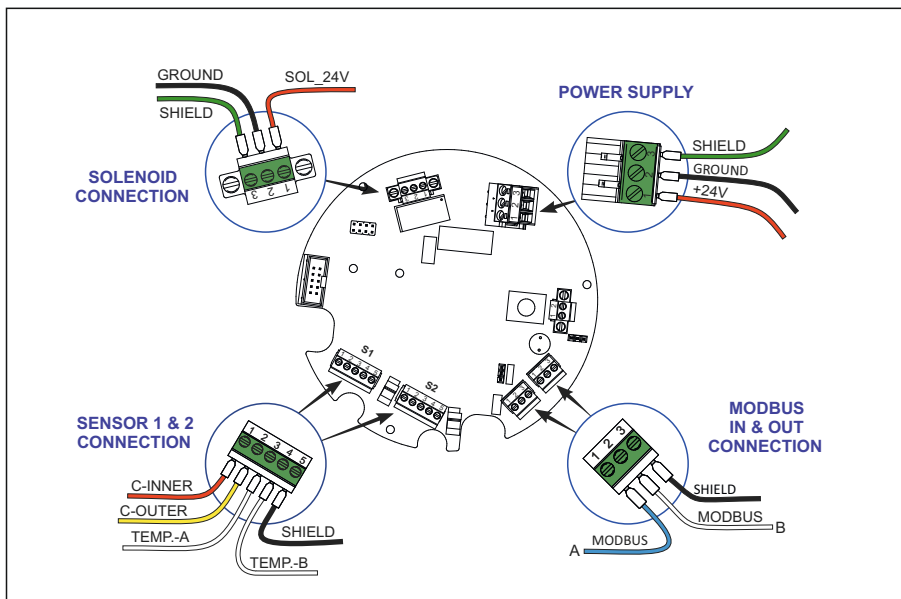
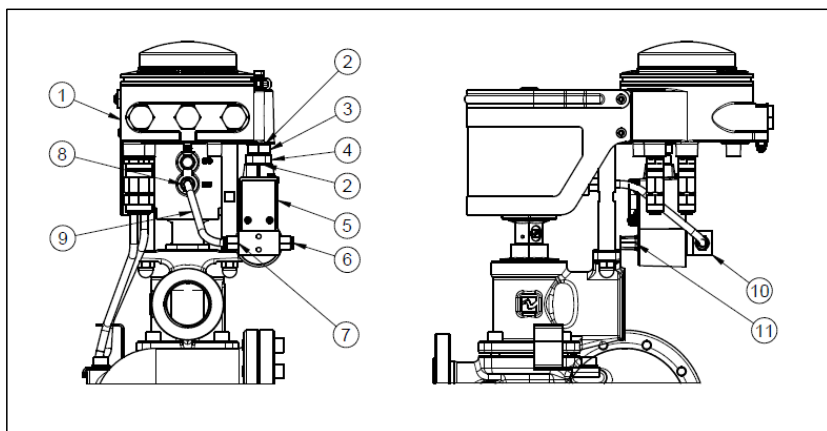
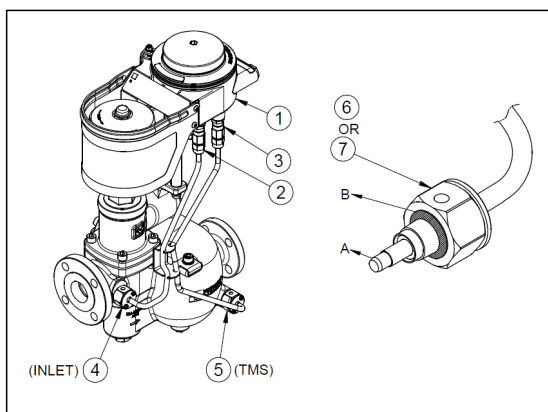

Fig.7.3
Fig.7.4
Fig. 7.7
- 4) Disconnect the power connector from the electronics board (refer to fig. 7.3).
- 2) Remove the mounting screws (6) and take out the partition plate (5), referring to the tools and torque specifications.
- 3) Disconnect the cable terminals for the solenoid valve, sensor-1, sensor-2, Modbus-in, and Modbus-out (refer fig 7.3).
- 4) Loosen and remove the mounting screws (7), then carefully remove the existing PCB by holding the power supply connector.
- 5) Handle the new PCB (8) by the power supply connector, position it inside the housing, and mount it.
- 6) Secure the new PCB (8) with the mounting screws (7) and reconnect the solenoid, sensor-1, sensor-2, Modbus-in, and Modbus-out cables (refer fig 7.3).
- 7) Reinstall the partition plate (5) using the mounting screws (6).
- 1) Following the steps outlined in section 7.1.1, disconnect the solenoid cable terminal from the electronics and remove the solenoid cables from the terminal. Refer to Figure 7.3 of the connection diagram for reference.
- 2) Close the air-line valve and disconnect the pneumatic connection from the solenoid inlet port (6).
- 3) Detach the pneumatic tube (9) from the solenoid valve outlet port (7).
- 4) Unscrew the pneumatic connector (7) from the solenoid valve (5).
- 5) Loosen the solenoid valve stem cap (11) from the valve body stem (10), allowing both to be separated and removed from the solenoid coil (5).
- 6) Using the appropriate tools, rotate the M20 cable feed-through (3) along with the solenoid valve (5) from the electronics housing (1). While rotating the M20 feed-through (3), ensure the solenoid cables inside the electronics housing rotate with it to prevent twisting. This will separate the existing solenoid (5) from the housing (1).
- 7) The newly supplied solenoid valve comes pre-assembled with connected cables, an M20 feed-through (3), and M20 gasket (2).
- 8) Remove the solenoid stem cap (11) and valve body (10) from the newly supplied solenoid coil (5).
- 9) Ensure the M20 gasket (2) is properly positioned between the electronics housing body (1) and the M20 cable feed-through (3), then tighten securely.
- 10) Confirm the M20 gasket (2) is in place between the check nut (4) and the solenoid coil (5). Align the solenoid valve (5) as shown in the fig. 7.4 and tighten the check nut (4).
- 11) Insert the solenoid valve body (10) with its stem through the solenoid coil (5) and fasten the stem cap (11) on the opposite end.
- 12) Attach the solenoid valve outlet port connector (7) and connect the pneumatic pipe (9) to it.
- 13) Connect the air supply pipe to the solenoid valve inlet (6) and open the air-line valve to start the air supply.
- 14) Connect the solenoid cable to solenoid connector and attach the solenoid connector to the electronic board as shown in fig. 7.3.
- 2) Disconnect the sensor connectors from the terminal PCB. Refer to Figure 7.3 of the connection diagram for reference.
- 3) Loosen the cable glands (2 & 3) to release the sensor cables. The cable glands (2 & 3) do not need to be completely removed from the housing (1).
- 4) Use a 32 mm A/F spanner to remove sensors (4 & 5) from the product inlet ports and cover TMS ports as shown in Figure 7.7.
- 5) Clean the sensor probe (A) with soft cloth, removing any accumulated dirt and debris. Refer to the sensor details in Figure 7.7.
- 6) Ensure the sensor gasket (B) is in place, then reinstall sensors (4 & 5) back into their respective positions in the inlet and TMS cover.
- 7) Reconnect the cable connectors to the corresponding terminals on the electronics board. Refer to Figure 7.3 in the connection diagram for reference.
- 2) Disconnect the power supply, Modbus-in, Modbus-out, sensor 1, and sensor 2 cables from their connectors. Refer to Figure 7.3 of the connection diagram for reference.